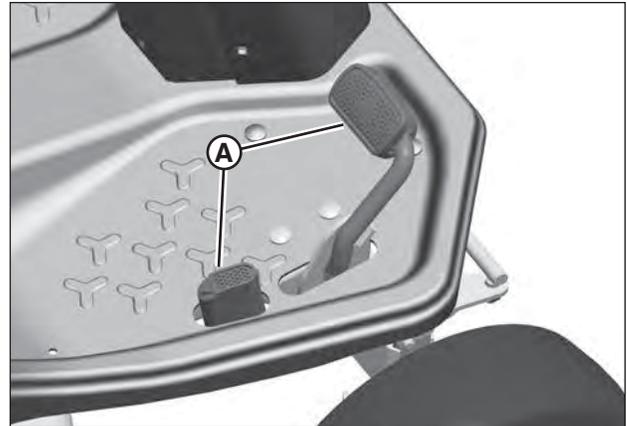
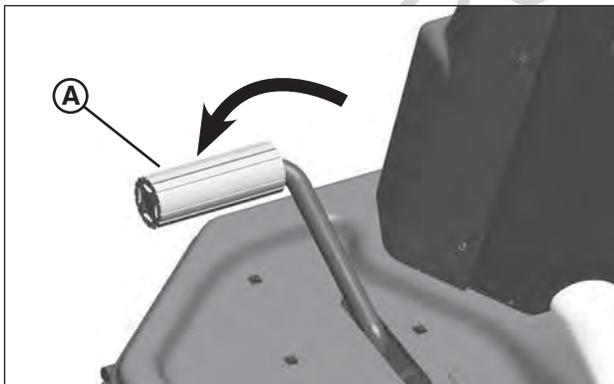

Figure 14: Ground speed pedals (hydro drive models)
Figure 13: Clutch/brake pedal
1. Stop motion of the unit by fully depressing the clutch/brake pedal (A, Figure 13) to disengage the clutch and apply the brake.
1. Stop motion of the unit by fully releasing the ground speed pedals (A, Figure 14). Additional braking can be achieved by depressing the brake pedal (A, Figure 13).